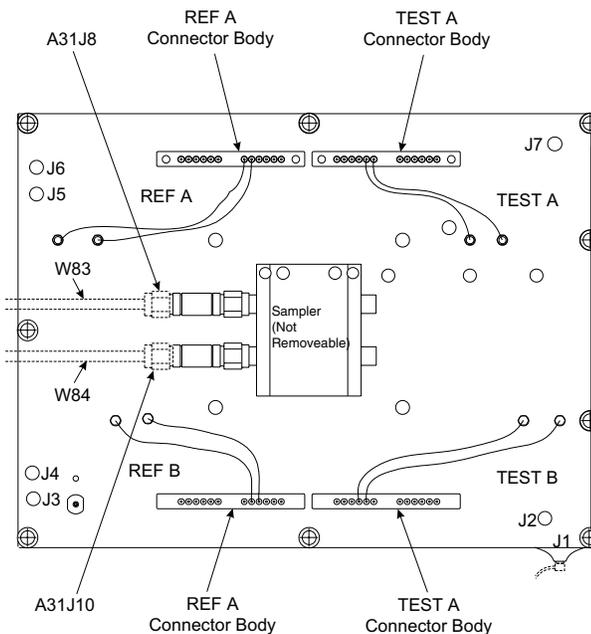

Figure 8-11. A31 Buffer Amplifier/Sampler Assembly, Details
- ❑ Remove the Power Amplifier assembly from the Buffer Amp. Do not remove the Sampler (Figure 8-11) from the Buffer Amp..
- Step 1.** Disconnect the semi-rigid coaxial lines and pads attached to the Buffer Amplifier/Sampler assembly; see Figure 8-11.
- Step 3.** Disconnect the two cable connectors from the TEST A connector body on the Buffer Amplifier/Sampler assembly (see Figure 8-11). Similarly, disconnect the two cable connectors from the REF A connector body.
Step 2. Disconnect the semi-rigid coaxial line W81 from the input connector of the SDM; see Figure 8-11.
Step 4. Disconnect the semi-rigid coaxial line W80 from the output connector of the SDM; see Figure 8-11. Carefully lift the assembly from the Test Set Module.